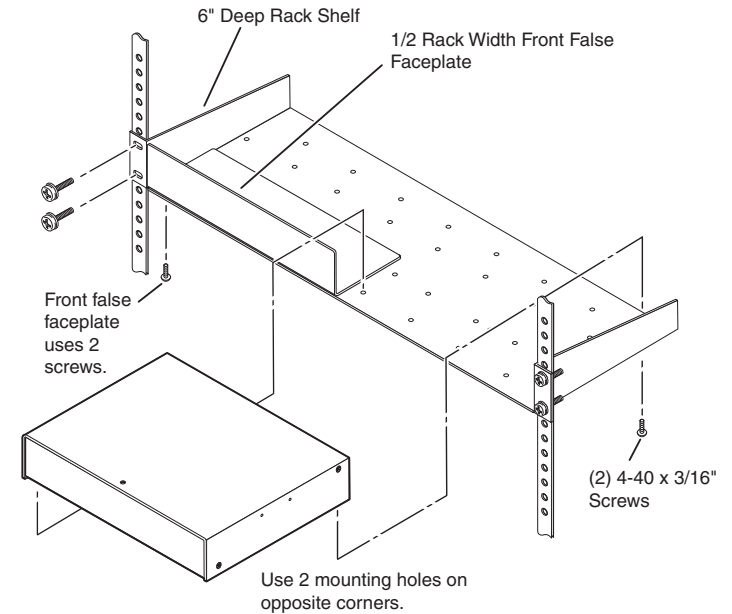

Figure 2-1 — Mounting the unit on a 6-inch rack shelf
- RSU 126 6" 1U deep universal rack shelf kit (part #60-190-10) (figure 2-1)